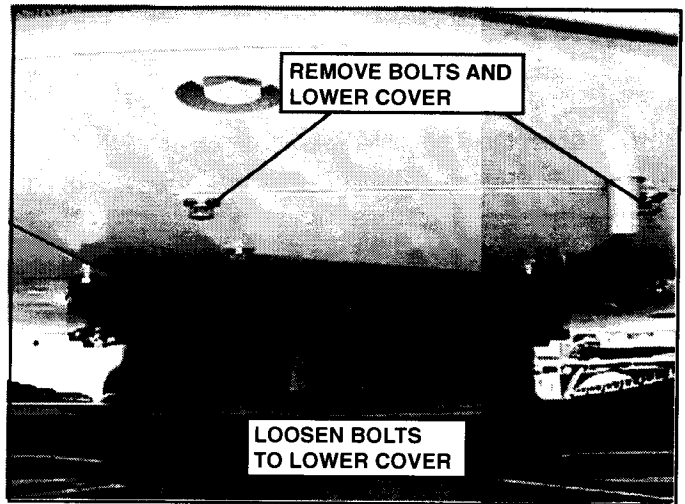

FIGURE 4.60
2. Remove the four retaining bolts from the oil pan access cover on the bottom, rear center of machine. See Figure 4.60.